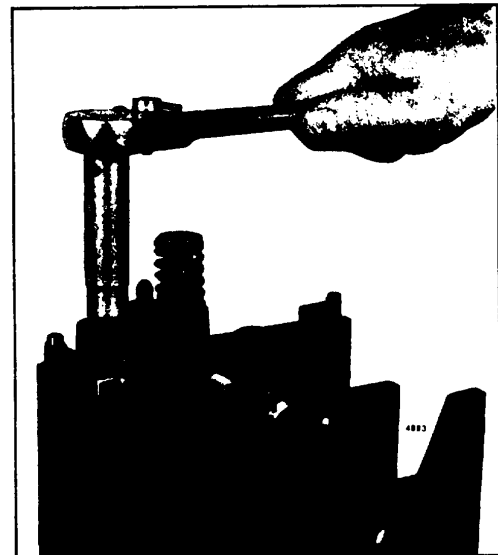

Fig. 23. - Removing or Installing Filter Cap
1. Support the injector upright in injector holding fixture J 22396 (Fig. 23.) and remove the filter caps, gaskets and filters.